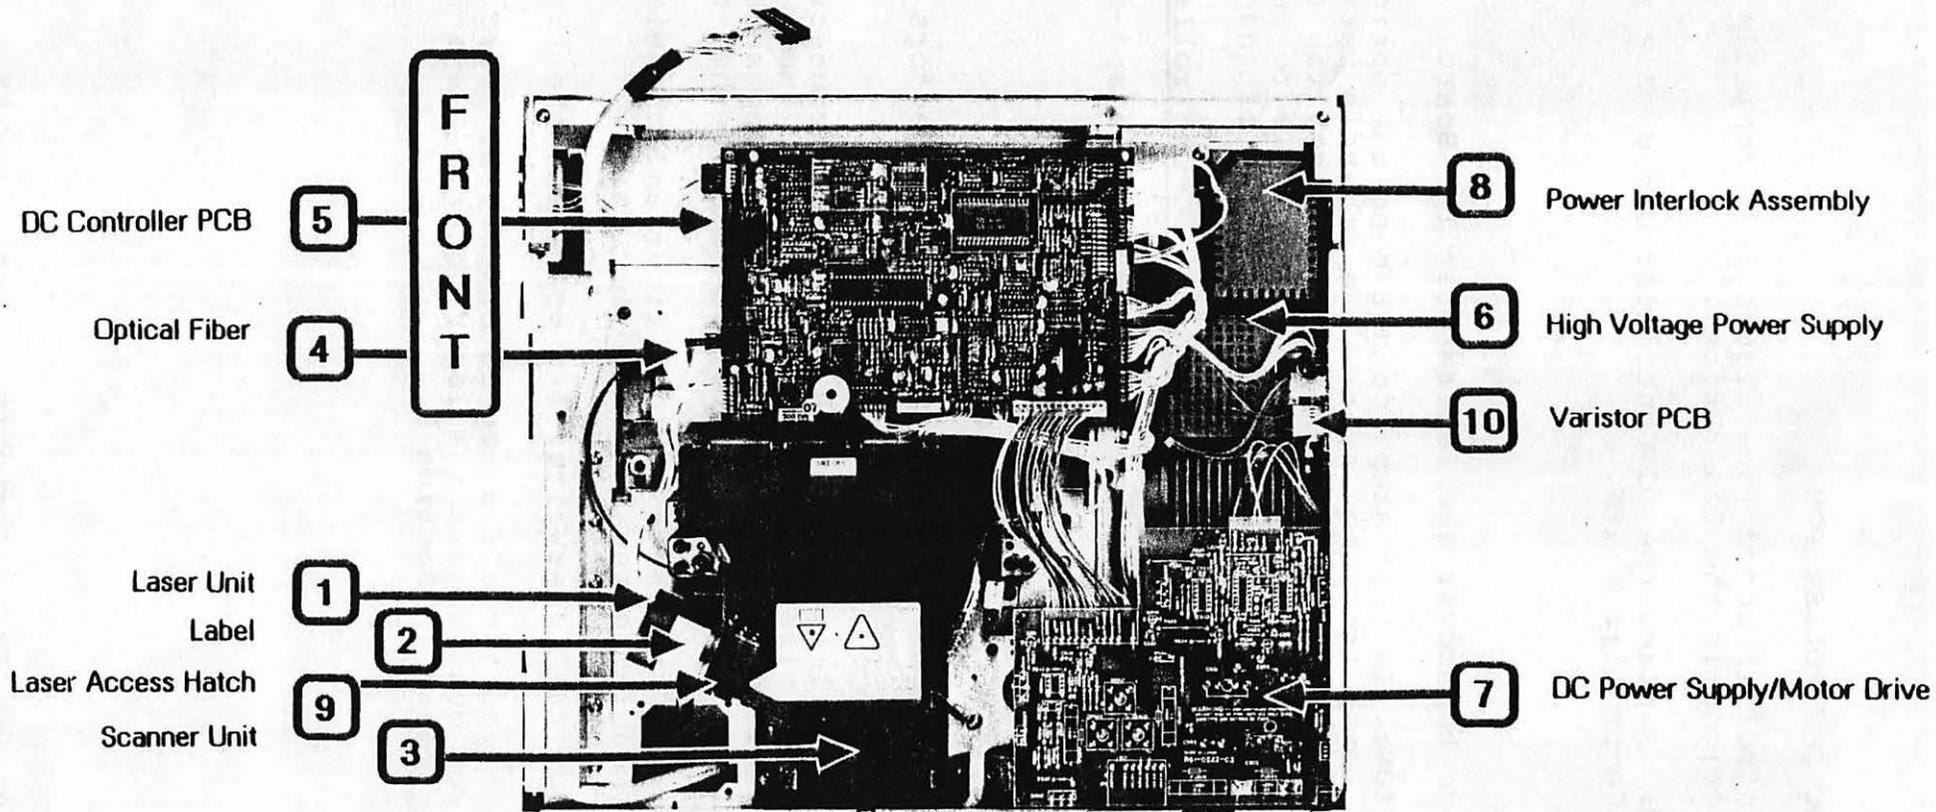

Figure 2-8 : Top View of LaserWriter With I/O Board Removed
2.B.4 - DC POWER SUPPLY/MOTOR DRIVE PCB (Figure 2-8, #7)